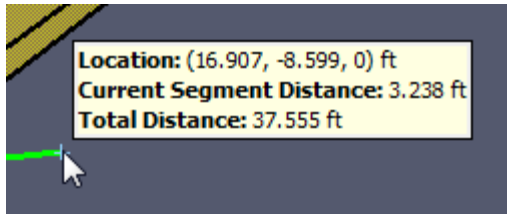

Figure 8.34. Information displayed by the measure tool
2. Either click several points to measure the total distance along a path or click-drag to measure a single distance between two points. As the cursor is moved, the current cursor location, total path length, and length of the most recent segment are displayed as shown in Figure 8.34.